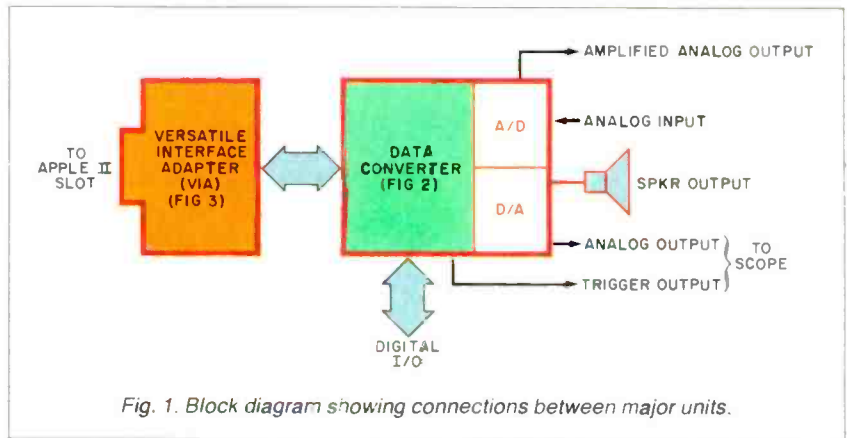

Fig. 1. Block diagram showing connections between major units.
**Circuit Description.** The Data Converter (Fig. 1) employs the Versatile In-